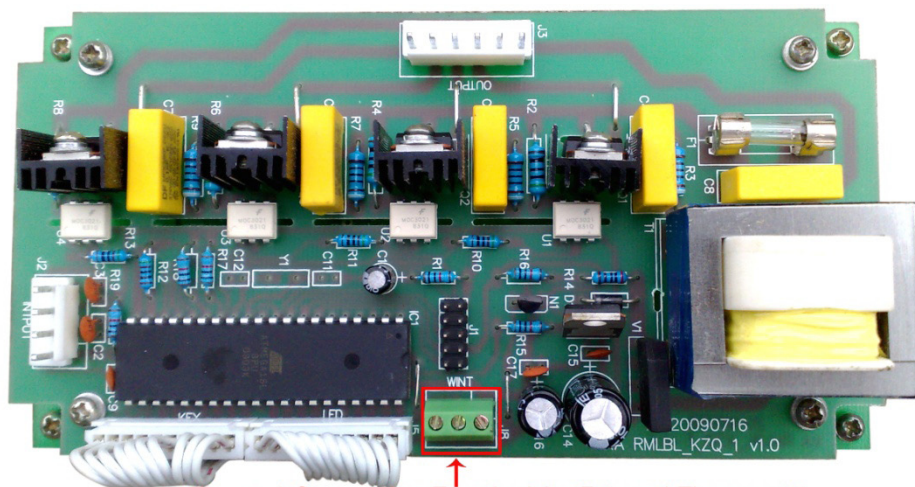

Figure 4
- Strip insulation from thermostat wires and connect to the screw terminal on the rear of the control panel (see Figure 4).